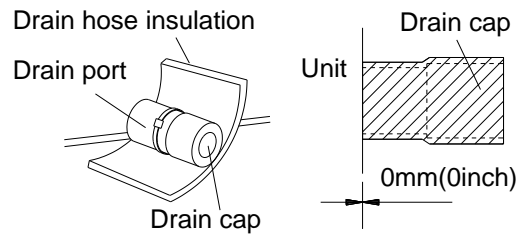

Figure 3-1-14
- (10) The unused drain port also should be insulated properly.( Figure 3-1-14)